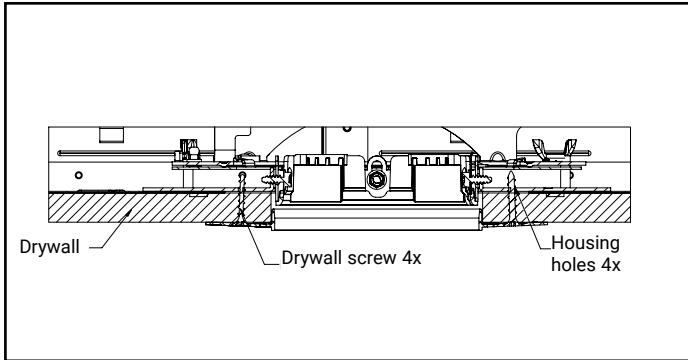

Figure 5.
12. Drive 4 drywall screws (length per table) through the rimless adapter and into the housing holes (Figure 5). Allow sufficient curetime as recommended by the adhesive manufacturer before applying any joint compound.